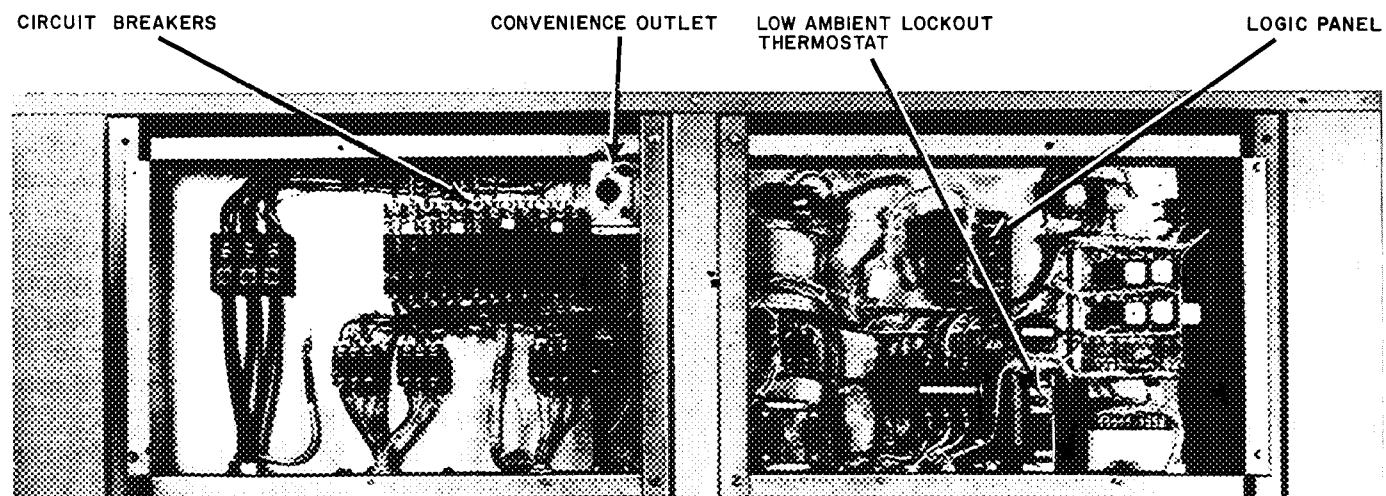

Fig. 14 — Control Box
**Low Ambient Compressor Lockout** (Fig. 14) — All units are equipped with an adjustable low ambient lockout thermostat to lock off the compressor(s) at low outdoor air ambients. Thermostat is located in the main control box. Setting will depend on specific installation but should be approximately 50 F on VAV units and 55 F on constant volume units.
**Convenience Outlet** — All units are equipped with a 115-volt convenience outlet for handling small power load or service light. See Fig. 14.